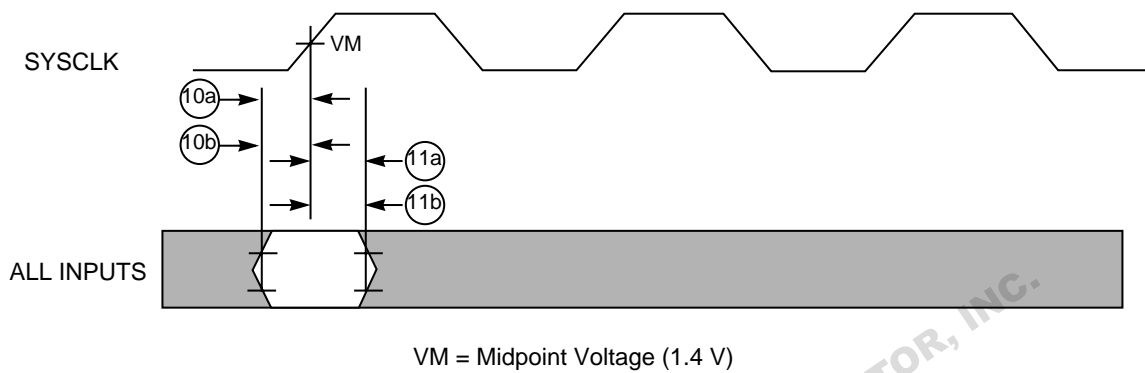
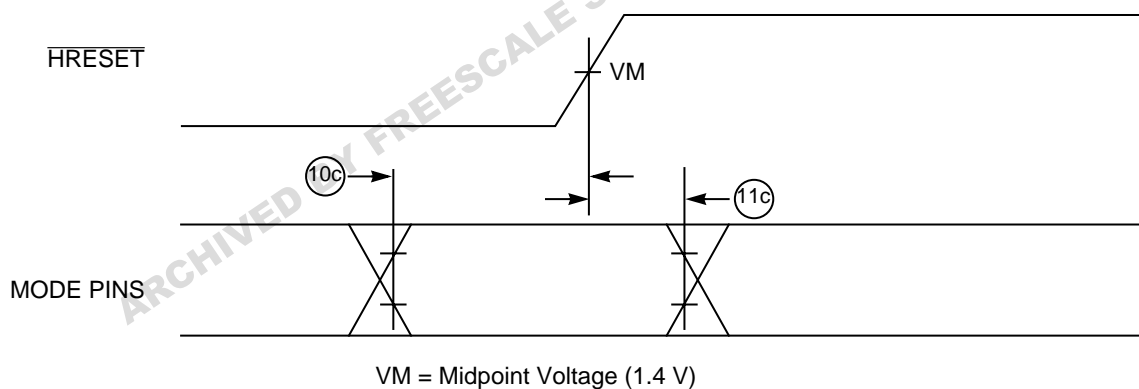

Figure 2. Input Timing Diagram
Figure 3. Mode Select Input Timing Diagram
Table 7 provides the input AC timing specifications for the 603 as defined in Figure 2 and Figure 3.
- All input specifications are measured from the TTL level (0.8 or 2.0 V) of the signal in question to the 1.4 V of the rising edge of the input SYSCLK. Both input and output timings are measured at the pin (see Figure 2).
- The setup and hold time is with respect to the rising edge of $\overline{\text{HRESET}}$ (see Figure 3). This specification is for configuration-mode only. Also note that $\overline{\text{HRESET}}$ must be held asserted for a minimum of 255 bus clocks after the PLL-relock time (100 μs) during the power-on reset sequence.
Figure 2 provides the input timing diagram for the 603.
Figure 3 provides the mode select input timing diagram for the 603.